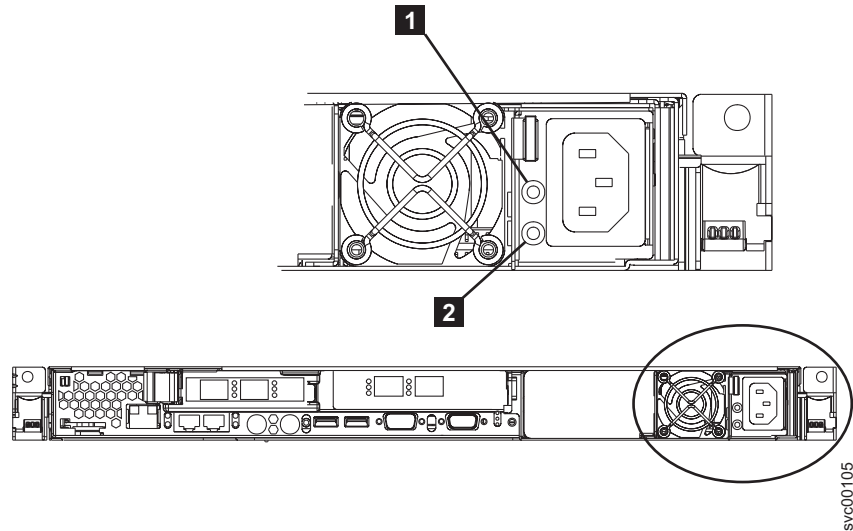

Figure 165. SAN Volume Controller 2145-8F2 or SAN Volume Controller 2145-8F4 ac and dc power LEDs
5. Make sure that the power-supply fan starts and the ac power LED **1** and dc power LED **2** (shown in Figure 165 on page 181) on the power supply are lit, indicating that the power supply is operating correctly.